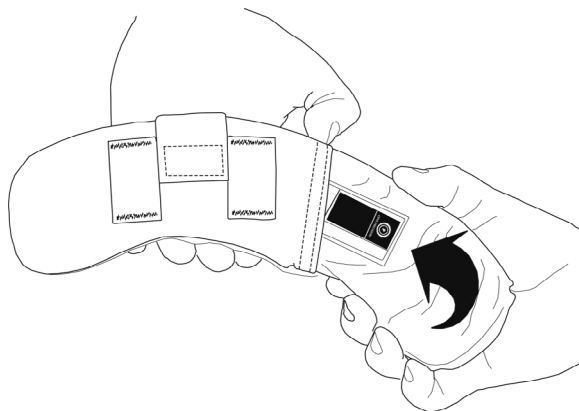

Figure 2. Reinserting Ballistic Panel in Fabric Carrier.
- f. Once clean and dry, re-insert ballistic panel into carrier through opening in carrier, ensuring that the label on the ballistic panel faces toward wearer as shown in Figure 2.